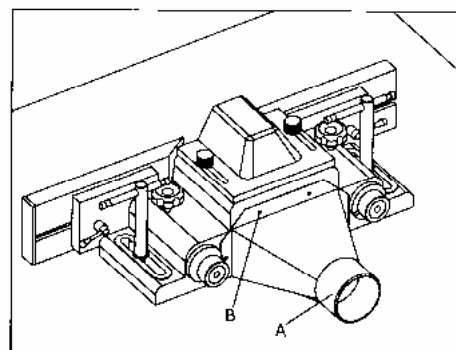

Fig. 3.26.1
Assemble dust chute (A) Fig.3.26.1 for safety fence assembly, using the two screws and washers (B) as shown.